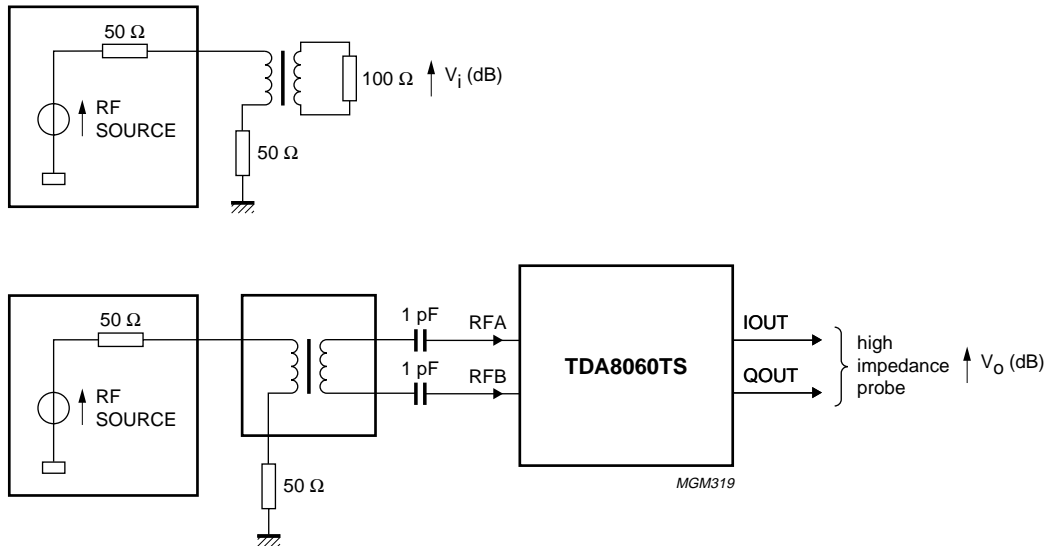

Fig.3 Gain control diagram for symmetrical RF input.
SYMMETRICAL RF INPUT (Fig.3)
4. Gain =  $V_{o(dB)} - V_{i(dB)}$  (see Fig.3). Gain for symmetrical RF input
5. Gain =  $V_{o(dB)} - V_{i(dB)}$  (see Fig.3). Gain for asymmetrical RF input